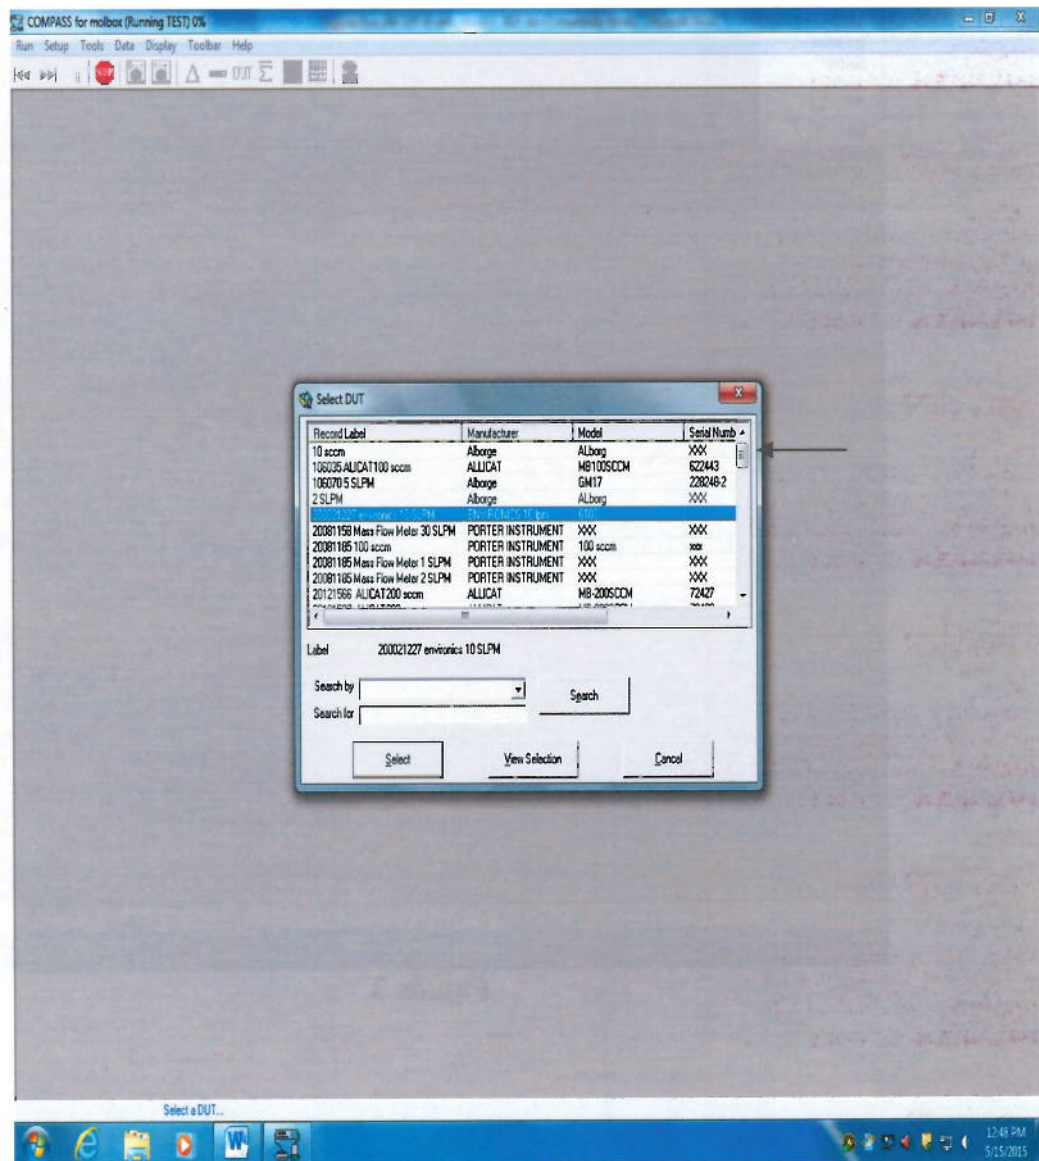

Figure 4
- 12.3.3 Using the scroll bar (Figure 4), scroll down to the record label that matches the model and flow range of the candidate flow standard. Double-Click on that record label.